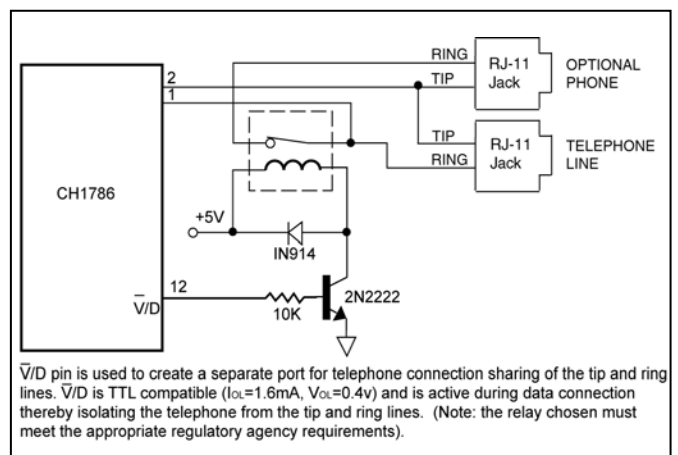

Figure 2. Voice/ Data Port Control
**Phone Control.** Cermetek's CH1786 contains a pin called Voice or Data (V/D). The V/D pin toggles high when the modem goes off hook. This pin can be used to activate a relay which can switch a telephone on or off the Tip and Ring incoming PSTN lines. This feature allows any telephone associated with the CH1786 to be disconnected when a data call is in progress, thereby preventing the data from being disturbed by an inadvertent telephone pick-up. See Figure 2.